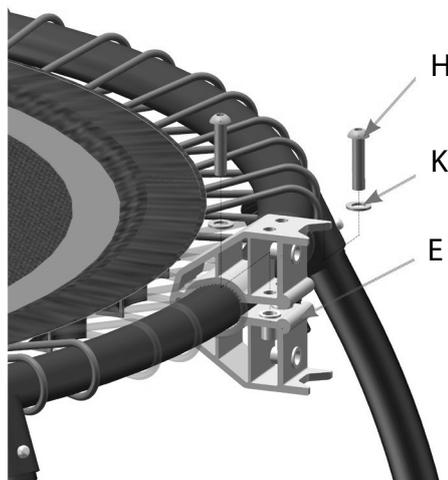

fig. 2
2. To fasten the clamp (E) for the handlebar use two socket head bolts (H) and two washers (K) (see fig. 2).